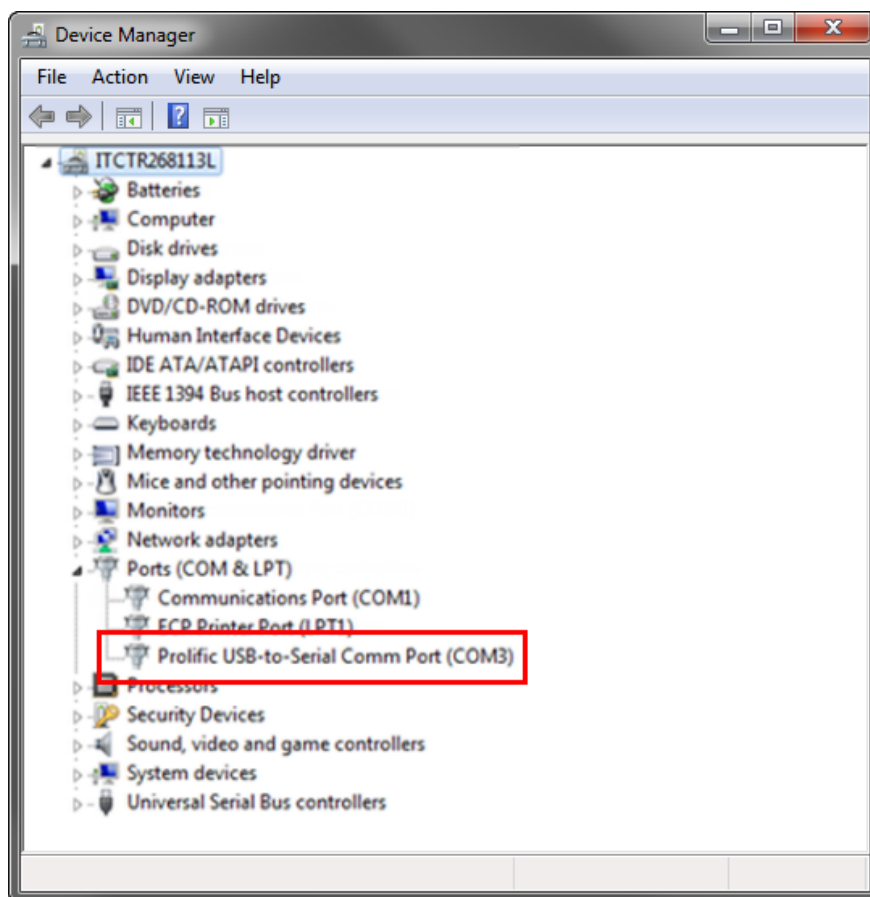

Figure 45. USB-to-Serial Comm Port Example
5. Locate the **Ports (COM and LPT)** line and click on the plus (+) sign to expand. The ports recognized by Windows are listed here. Note the port name that is listed as Serial Comm Port (COMx), where x is the number of the port. COM3 is the port number shown in the example in Figure 45.
- From the Forms Manager window, click **Set GPS CommPort** on the **Administrative** tab. The **Set GPS Com Port Number** dialog box opens, as shown in Figure 45.